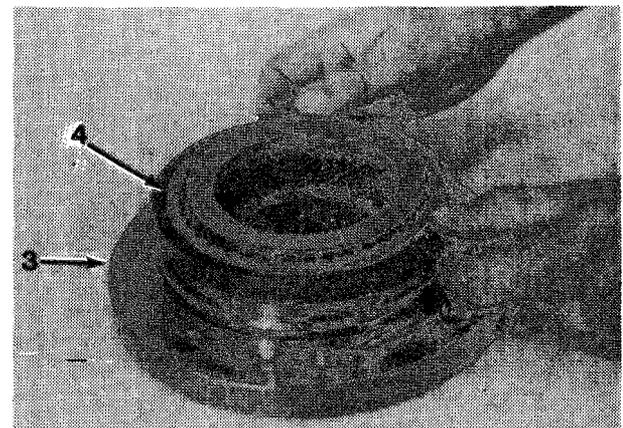

Figure 16-13
9. Lubricate seal (4) and motor support (3, Figure 16-13) sealing surfaces with clean lubricating oil MIL-L-2105, grade 80W90.
10. Install seal (4) on motor support (3) with lip of seal (4) down.